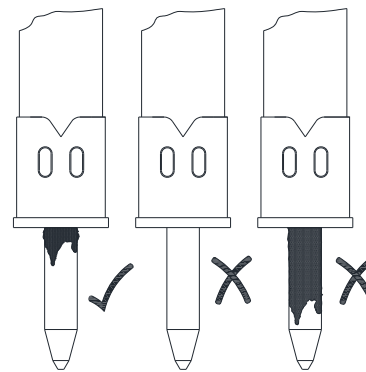

Fig. 6-14 Delivery Adjustment – OK ✓ - Lacking X - Excessive X
Adjusting may take several attempts to reach satisfactory delivery. When properly set, a fresh discharge of lubricant maintains a wet coating that is visible on the tool shank while working – without waste. Refer to Figure 6-14.
Keep the bushings and tool well lubricated during breaker operation. Actively monitor tool for sufficient lubrication. Lubricant must always be visible on the tool as shown in Fig. 6-14.
- The operator must actively monitor for new formation of grease around the bushings and tool. After the first 2 hours of operation, the operator should stop and check for fresh grease at the bushings and tool. Refer to Fig. 6-14.